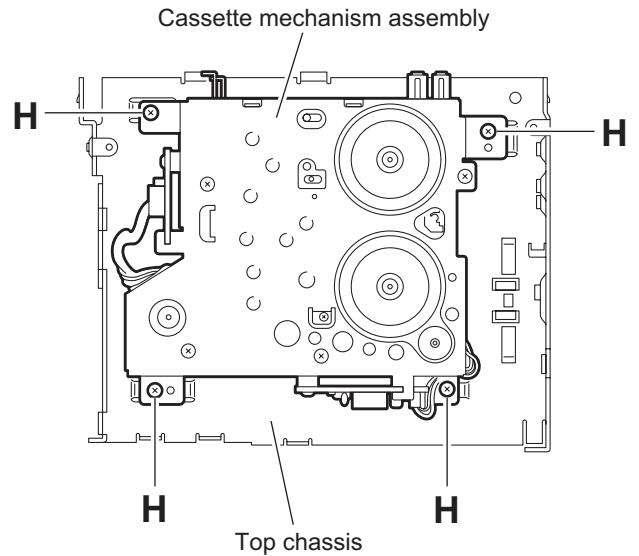

Fig.7
3.1.7 Removing the cassette mechanism assembly (See Fig.7)